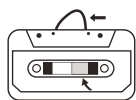
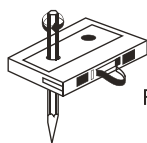

Fig. 1
Fig. 2
- Make sure there is no loose tape by checking from the cassette window (see figure 1). Use a pencil or ballpoint pen by turning the wheels of the cassette to extend the tape well before inserting the cassette into the dedicated compartment (see figure 2).
- If the belt is too tight during the operation shown in figure 2, in order to avoid slippage, quickly slide the belt from side to side and back.